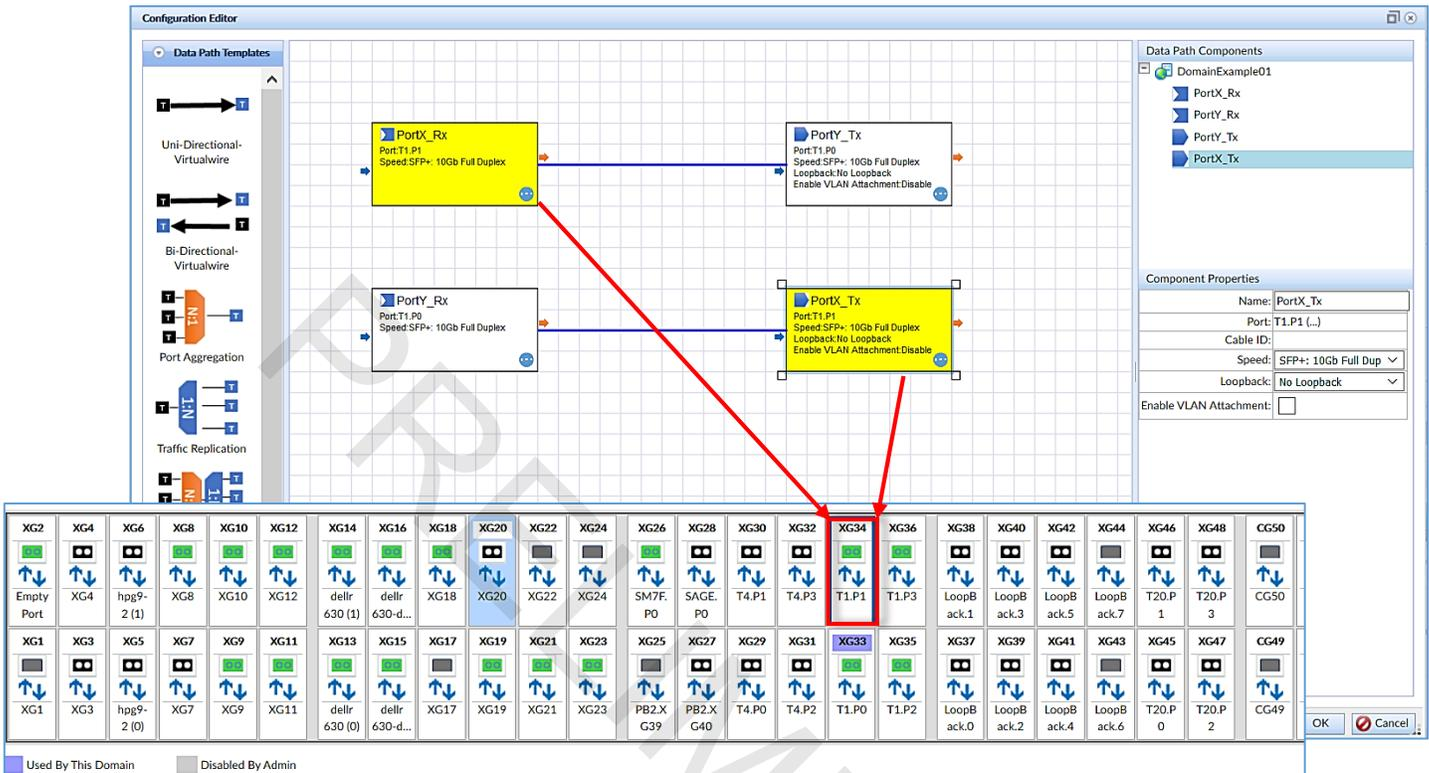

Figure 24: Assigning port XG34 to the bi-directional virtual wire template.
- Double-click the blocks **PortX_Rx** and **PortX_Tx** to assign the same port (Figure 24). In this example **PortX_Rx** and **PortX_Tx** are assigned to port **XG34**.
The Device View window appears, displaying the available ports (Figure 24 inset).